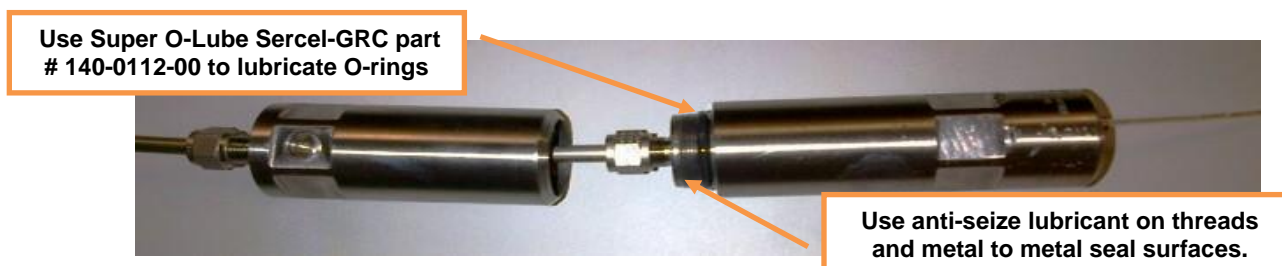

Figure 18. Installing the connector housing.
17. Prepare to install the second cablehead. Before threading this cablehead onto the gauge, the metal-to-metal seal section of the cablehead and gauge, should be absolutely clean. **Slightly grease threads and metal to metal seal surfaces with the anti-seize lubricant. Slightly grease O-rings with Super O-Lube.** Tighten to torque specified below or marked on the housing. See Figure 18. Be sure to grip wrench flats on C-5000/5500 when torqueing cableheads.